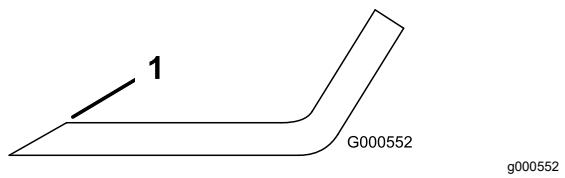

Figure 69
1. Use a file to sharpen the cutting edge at both ends of the blade (Figure 69).
**Note:** If the blade is not balanced, file some metal off the end of the sail area only (Figure 69).